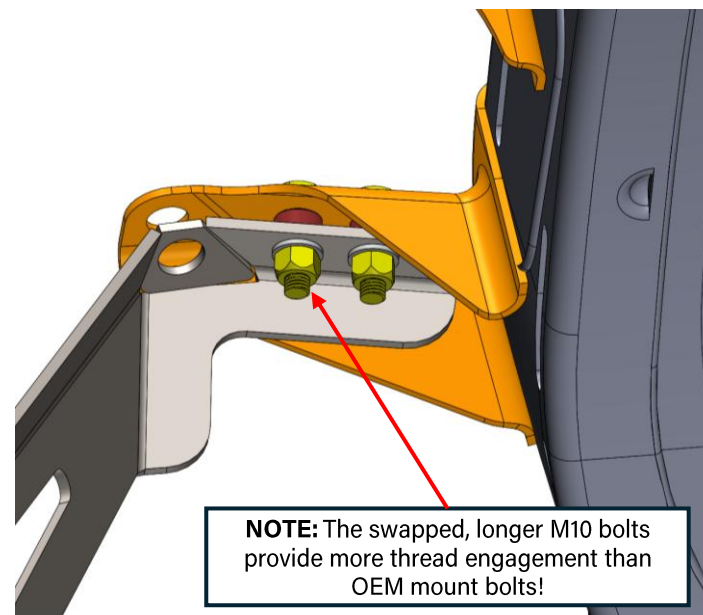

Figure 35: Motor mount bracket loosely installed
28. **Loosely** install the provided driver-side motor mount bracket using a 17mm socket. This bracket has a clearance bend for the driveshaft. See Figure 35 below for clarification. **Install below the motor mount using the x2 provided M10 locknuts and x2 washers. Do not install the skid plate yet!**